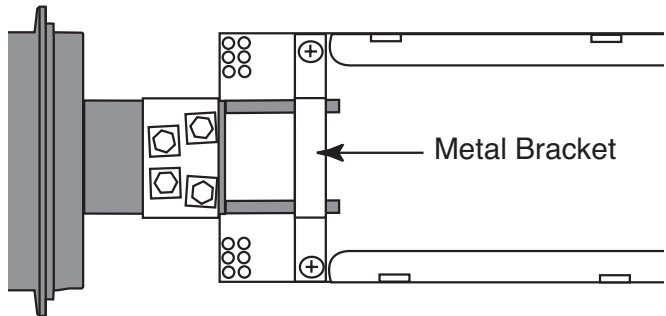

Figure 3: FOSC 400 B2 or B4
2. Slide the basket open side down between the splice organizer tray and the black plastic bracket. Reinstall the metal bracket with two screws supplied in poly bag. (Figure 3)